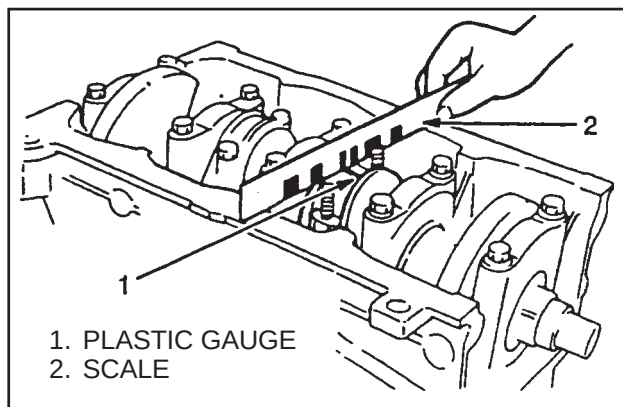

FIGURE 35. CHECK THE CLEARANCE OF THE CONNECTING ROD BEARINGS
2. Check the clearance between the rod bearings and the journals of the crankshaft. Clean the rod bearings and journals. Use a plastic gauge material between the journal and the bearing. Tighten the capscrews for the rod caps to 50 to 55 N.m (510 to 560 kgf·cm) for FE, to 65 to 69 N.m (660 to 700 kgf·cm) for F2 engine. Do not rotate the connecting rod. See FIGURE 35. The correct clearance is 0.027 to 0.067 mm. If the clearance is greater than the specifications, replace the bearings.